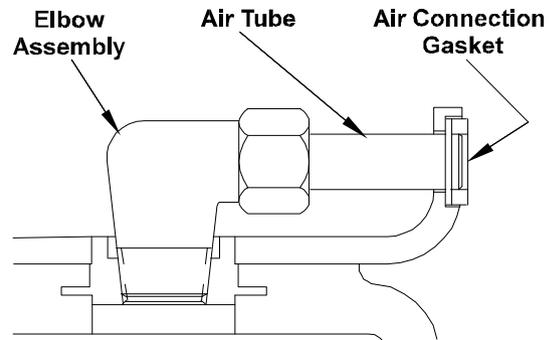

Figure 9
- 2.5.4. Apply a small amount of gasket cement to the air connection gaskets to hold them in position during installation. Install the air connection gaskets onto the air tubes. See Figure 9.